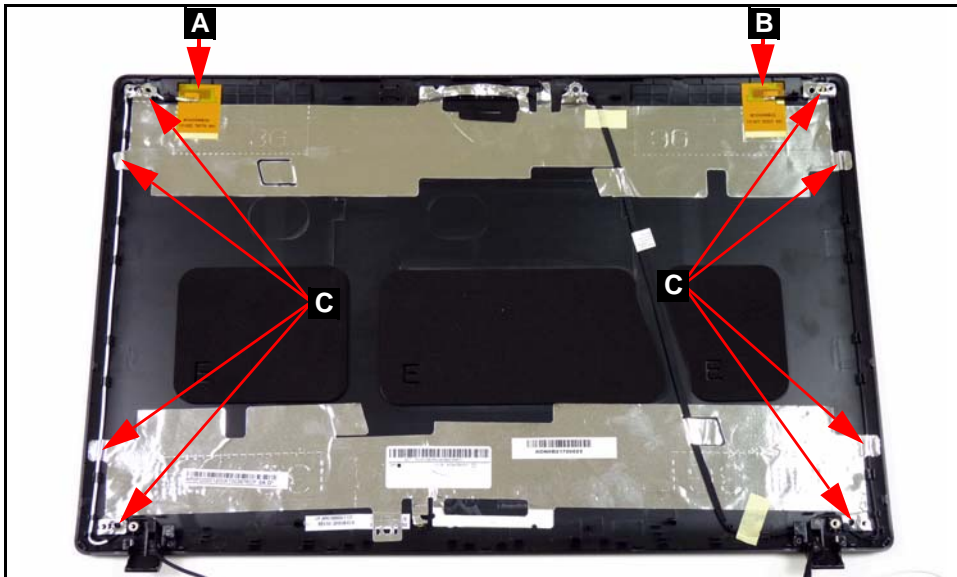

Figure 3-52. WLAN Antenna
1. Remove black (B) and white (A) WLAN antennas. (Figure 3-52)
2. Lift foil (C) from antenna cables. (Figure 3-52)
3. Remove antenna cables from cable guides. (Figure 3-52)
1. Put antenna cables into cable guides. (Figure 3-52)
2. Replace foil (C) to secure antenna cables. (Figure 3-52)
3. Put black (A) and white (B) antennas onto LCD cover. (Figure 3-52)